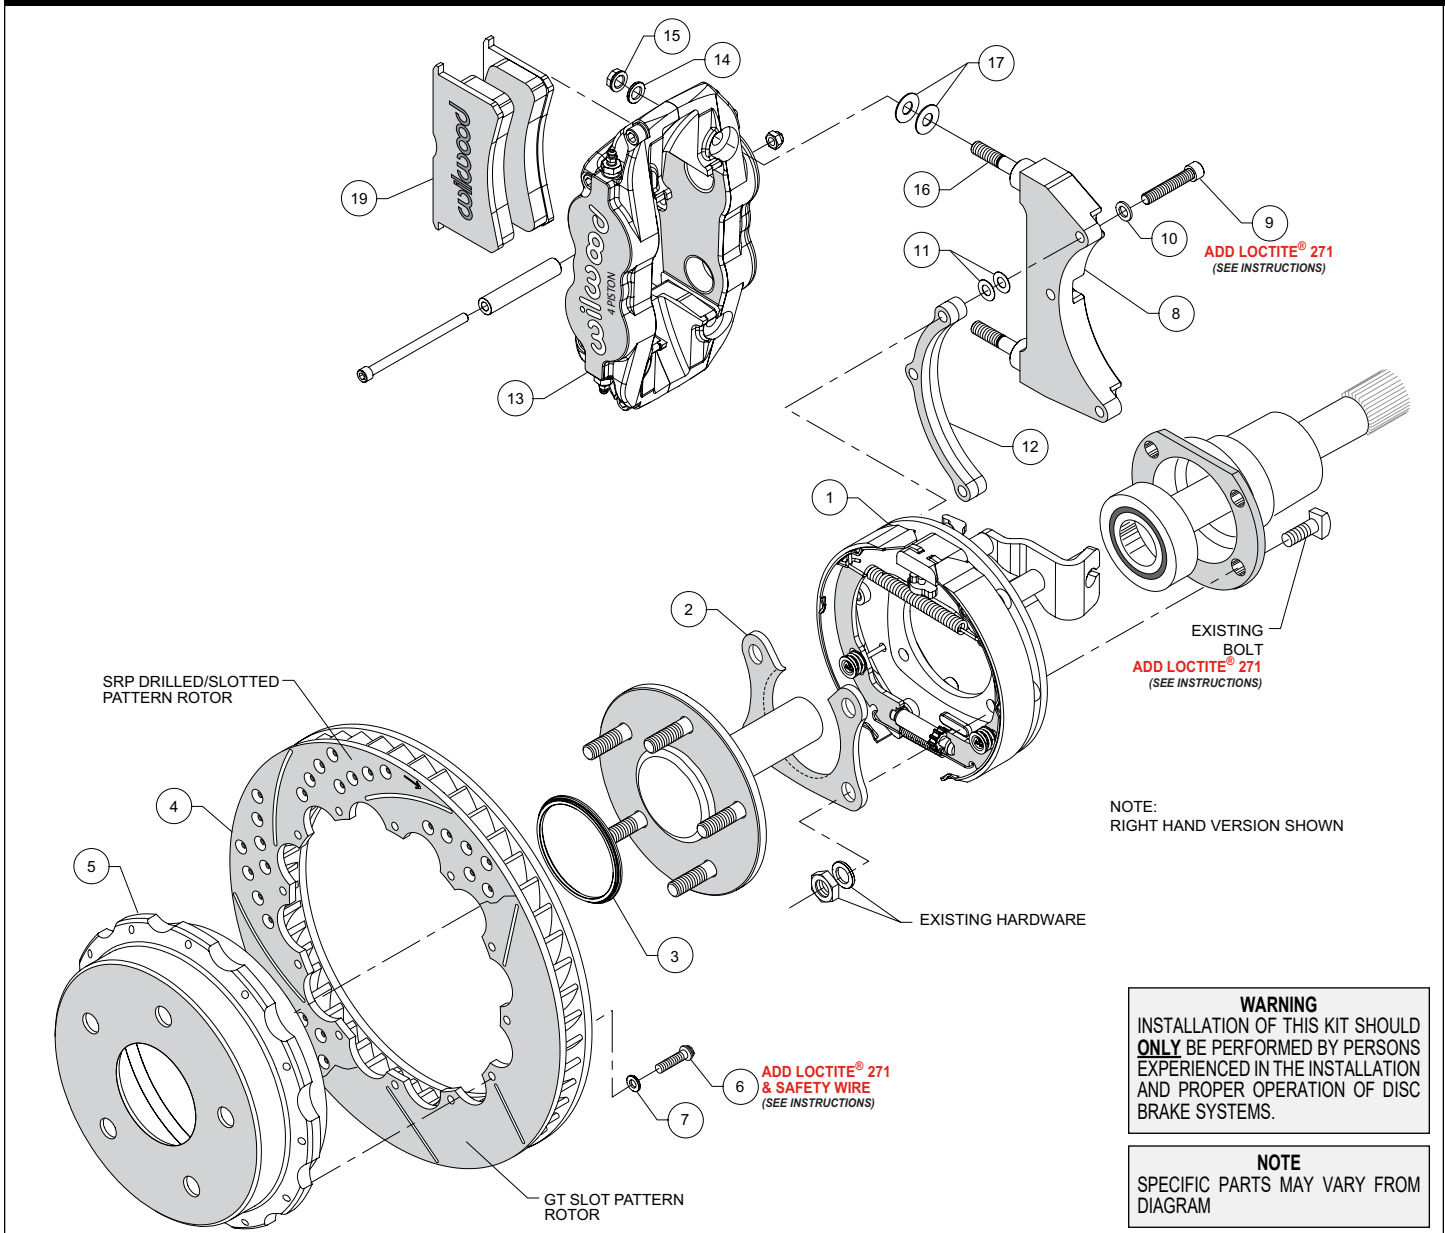
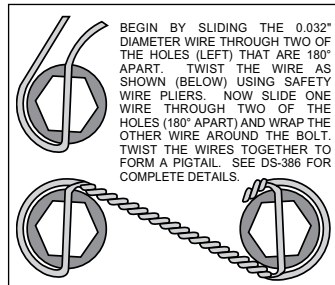

Figure 1. Typical Installation Configuration
Figure 5. Safety Wire Diagram
**Assembly Instructions** (numbers in parenthesis refer to the parts list, and Figure 1 on the preceding pages): **CAUTION:** All mounting bolts must fully engage clinch nuts. Be sure to check that all bolts are either flush or protruding through flanged side of clinch nut after shimming.
- Orient the bracket assembly (1) as shown in Figure 1 and Photo 1 and slide it onto the axle. Insert the axle and bracket into the axle housing. Ensure that the bracket assembly backing plate fits flush against the axle housing flange.
- Install the bearing retainer (2) with the opening pointing upward and the lip facing inward (toward the bearing), as shown in Figures 1 and 4, and Photo 2. Secure retainer and bracket assembly to the axle housing flange using the Original Equipment Manufacturer (OEM) bolts, washers, and nuts, Figure 1. Apply red *Loctite*® 271 to the OEM bolt threads and torque to OEM specifications.
•**NOTE:** Please reference the caution statement at the beginning of the assembly instructions. The caliper mounting bracket (8) should initially be installed with clean, dry threads on the mounting bolts. Orient the bracket as shown in Figure 1 and Photo 3, and install using bolts (9) and flat washers (10). Initially place two .015" shim washers (11) on each bolt between the bracket (8) and spacer (12), Figure 1. Temporarily tighten the mounting bolts. **NOTE:** End of bolt should not exceed inside face of insert. The bracket must tighten squarely against the back side of the bracket kit assembly (1). Inspect for interference from casting irregularities, machining ridges, burrs, etc. Later, after the caliper alignment has been checked, the mount bolts will be secured using red *Loctite*®.
•Orient the rotor (4) and the hat (5) as shown in Figure 1 and Photo 4. Attach rotor to hat using bolts (6) and washers (7). Apply red *Loctite*® 271 to the bolt threads and torque to 140 **in-lb** using a criss-cross pattern. For an added measure of security, the bolts may be safety wired using standard 0.032 inch diameter stainless steel safety wire as shown in Figure 5. Please refer to Wilwood's data sheet DS-386 (available at [www.wilwood.com/Pdf/DataSheets/ds386.pdf](http://www.wilwood.com/Pdf/DataSheets/ds386.pdf)) for complete safety wire installation instructions.
•Slide the rotor registration adapter (3) onto the axle register on the axle flange with the smaller O.D. facing toward the rotor/hat (4/5), Photo 5. Align the hole pattern in the hat with the stud pattern on the axle flange and slide into place, Figure 1 and Photo 6. **NOTE:** The rotor/hat must fit flush against the axle flange or excessive rotor run out may result. Install three lug nuts (finger tight) to keep the rotor/hat assembly in place while continuing with the installation. **NOTE:** Some OEM and after market axles come with stud sizes larger than 0.50" diameter. Verify stud size and have a qualified machine shop drill the bolt circle of the hat/rotor to the correct stud size, if necessary.
•Initially place two .035" thick shims (17) on each stud as shown in Figure 1 and Photo 7. Mount the caliper (13) onto the bracket (8) using lock nuts (15) and washers (14), Figure 1. Temporarily tighten the lock nuts and view the rotor through the top opening of the caliper. The rotor should be centered in the caliper, Photo 8. If not, adjust by adding or subtracting shims (11) between the bracket (8) and the spacer (12). Always use the same amount of shims on each of the three mounting bolts. Once the caliper alignment is correct, remove the bracket mounting bolts (9) one at a time, apply red *Loctite*® 271 to the threads, and torque to 180 **in-lb**.